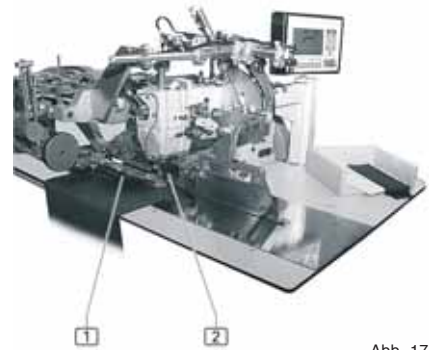

Abb. 17
6. **fig. 17:** Press the right foot switch (machine control); the clamp **1** moves the workpieces to the sewing unit **2**, where the pocket opening is cut with the centre knife and the corners with the corner knives. The pocket opening is sewn. As soon as the clamp has taken over the transportation to the sewing unit, the next workpiece can be positioned (overlapping work method)